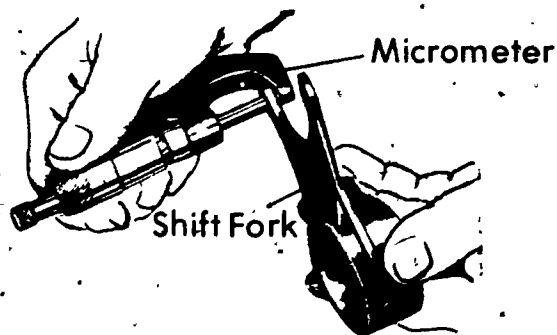

FIGURE 2
- D. Measure thickness of shift forks to determine wear (Figure 2)